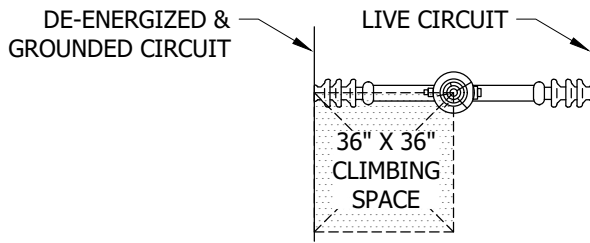

FIGURE 1 (Ib)
- (b) ONE OR BOTH CIRCUITS ARE DE-ENERGIZED, BOND WIRES AND DE-ENERGIZED CIRCUIT ARE GROUNDED, AND CLIMBING SPACE IS PROVIDED AS SHOWN IN FIGURES 1 & 2.